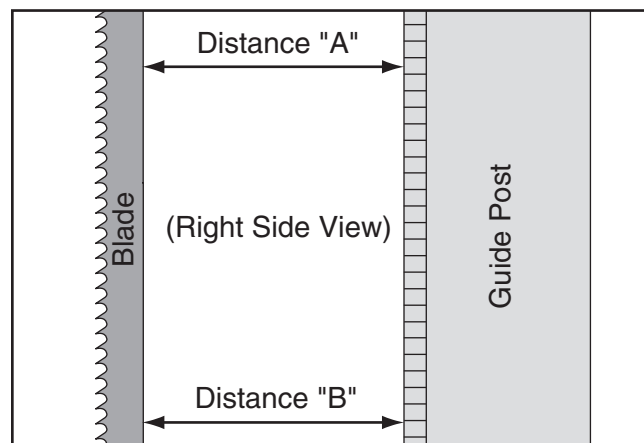

Figure 77. Example of measuring distance between rack and blade at top of guide post.
7. Measure the distance "A" between the top front face of the guide post rack and the back of the blade (see **Figure 77**).
8. Measure the distance "B" between the bottom front face of the guide post rack and the back of the blade (see **Figure 77**).